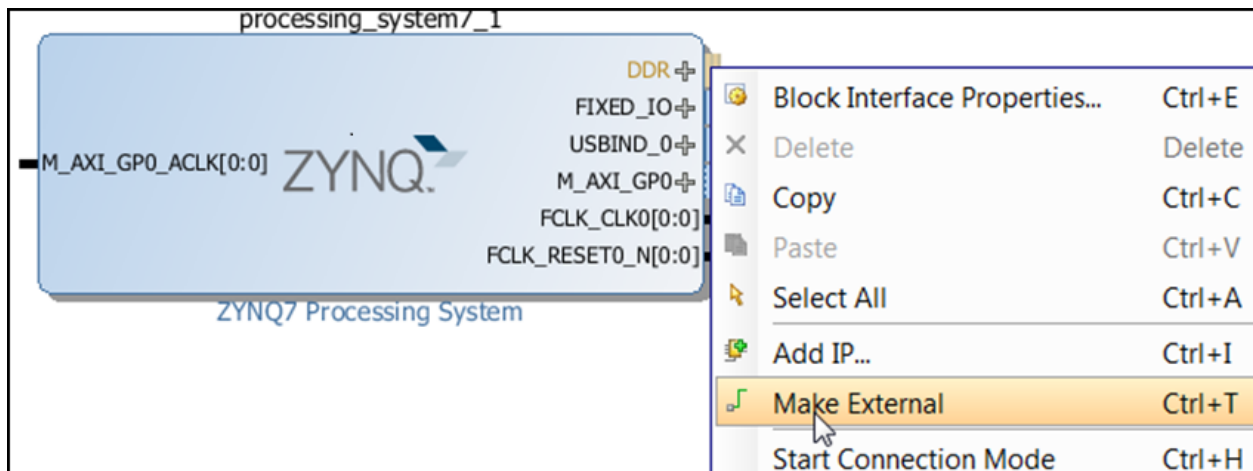

Figure 8: Make External Option
4. For each IP select Make External (do not select USBIND_0), (Figure 8).